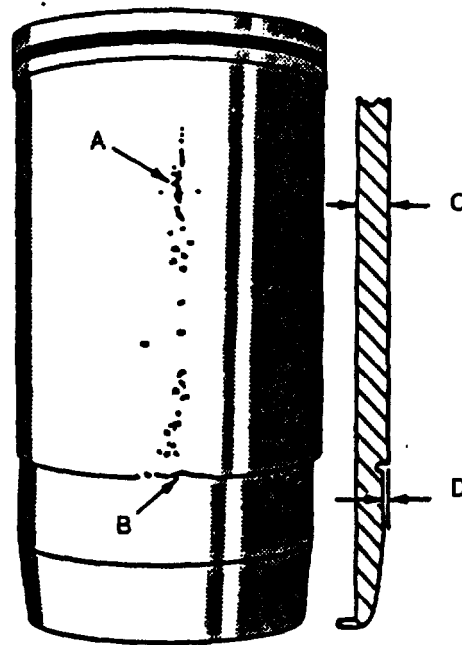

FIGURE 3-131. Inspecting Cylinder Liner Pitting
- r. Inspect exterior length of liner for pitting (A, FIGURE 3-131). Check packing step for erosion (B). If pitting or erosion is observed, measure depth of pits and erosion with a fine wire or needle. Replace liner if (C) depth of any pit is one-half or more of liner thickness, or (D) depth of erosion is one-half or more of the packing step. If no defects are found, proceed to next step.